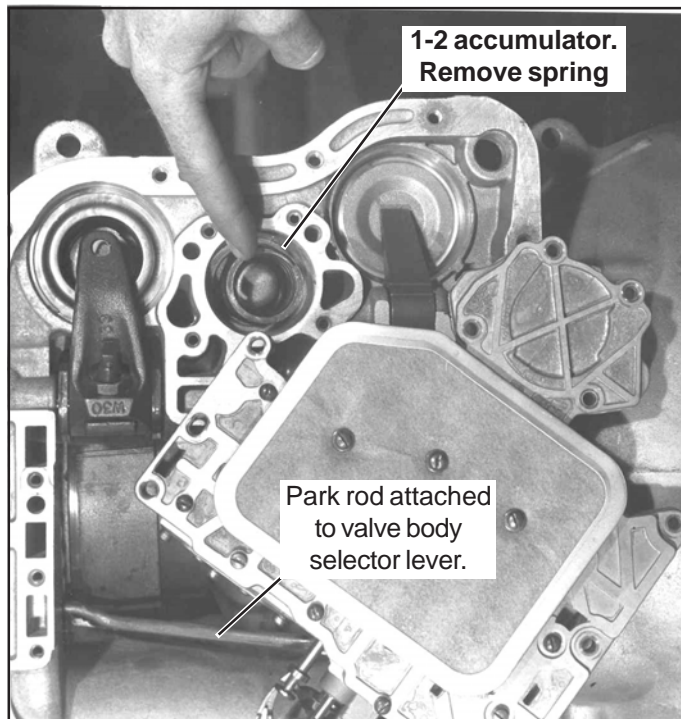

Figure 3
STEP 3. Remove the valve body by removing the ten bolts with a 7/16" wrench or socket. There is a spring between the valve body and the case so remove the last bolt slowly. This will also reduce the amount of oil splatter as the valve body is removed. Pull valve body down and forward to disengage park rod from back of case. It may be necessary to rotate driveshaft slightly to disengage the rod. There will be a spring (1-2 accumulator spring) between the valve body and case (See Fig. 3), remove and discard it. Place valve body in oil pan and set them on work bench.